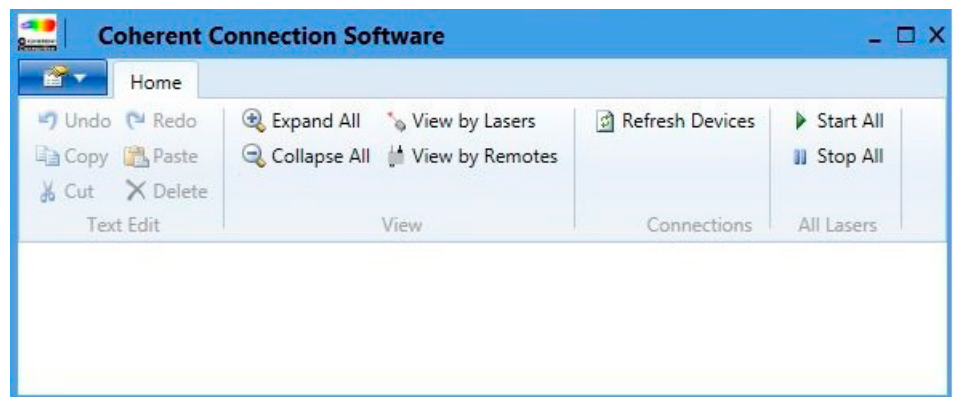

Figure 3-11. Primary Home Window - No Connected Laser Shown
4. If no laser displays in the Home tab window, as shown in the example in Figure 3-11, do the following: